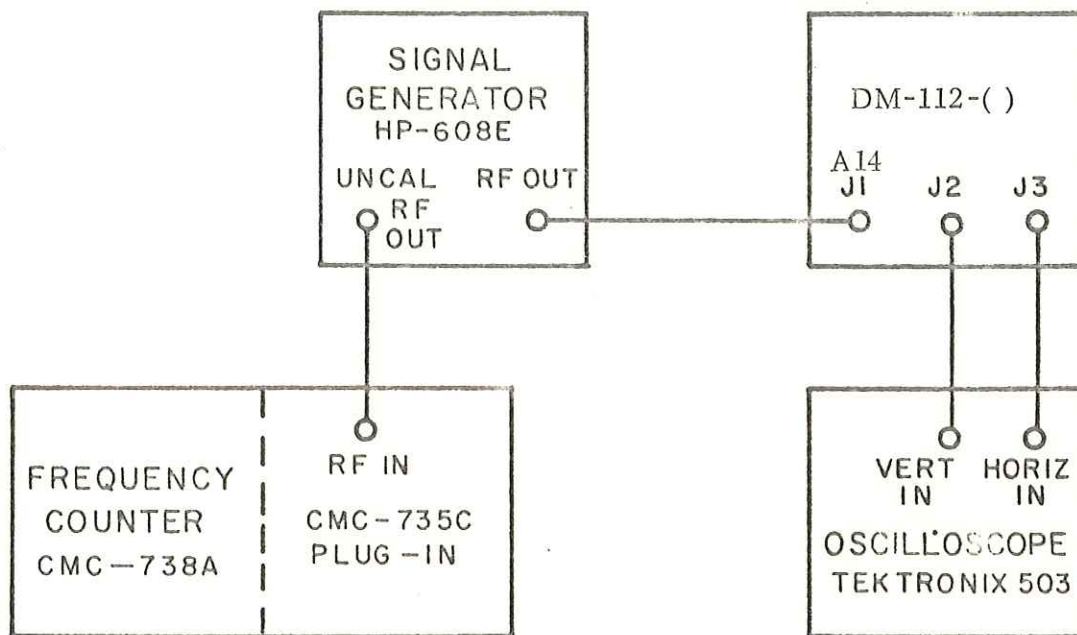

Figure 4-22. Test Setup, Vertical and Horizontal Output Adjustments
- (1) Connect the equipment as shown in Figure 4-22.
- (2) Adjust the signal generator for a 160 MHz CW output at a level of 10 μ V.
- (3) Adjust the GAIN control for a full screen 160 MHz pip deflection.
- (4) Adjust A18R18 (EXT VERT) for a 1.0 volt peak vertical output as displayed on the oscilloscope.
- (5) Adjust A18R14 (EXT HORIZ) for a 10 cm horizontal deflection of the oscilloscope trace with the oscilloscope external horizontal controls in the 2 V/CM position.
- (1) Connect the signal generator, oscilloscope and DM-112 as shown in Figure 4-22.
- (2) Place the controls in the positions specified in paragraph 4.5.1.2, step 3.
- (3) Adjust the signal generator for a 10 μ V 160 MHz CW output. Set the oscilloscope vertical controls for 0.2V/CM and external horizontal controls for 2V/CM.
- (4) Adjust the GAIN control for a full screen 160 MHz pip. The oscilloscope display should be a 10 CM horizontal deflection with a 5 CM vertical pip centered horizontally on the tube face.